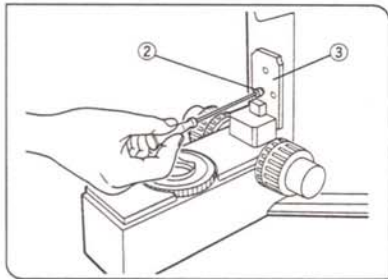

Fig. 26
3. Turn the coarse adjustment knob and raise the focusing block ③ to where the stopper screw ② in the arm becomes visible. (Fig. 26)
4. Using the Allen wrench, loosen and remove the upper stopper screw ②.